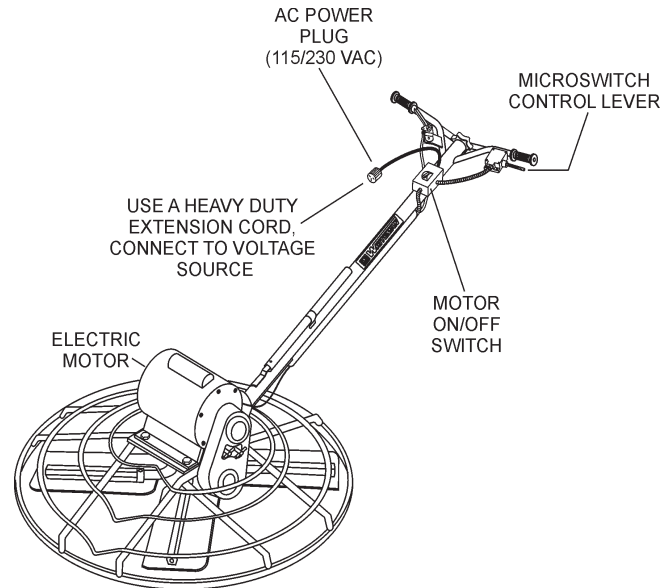

Figure 26. Electric Motor Trowel
4. Squeeze the micro-switch lever (Figure 26) to begin troweling. This lever will act an **emergency stop switch**. When this lever is released, voltage to the electric motor will be interrupted. When this lever is squeezed the voltage will resume. This can only be accomplished if the trowel's power **ON/OFF** switch is in the **ON** position.